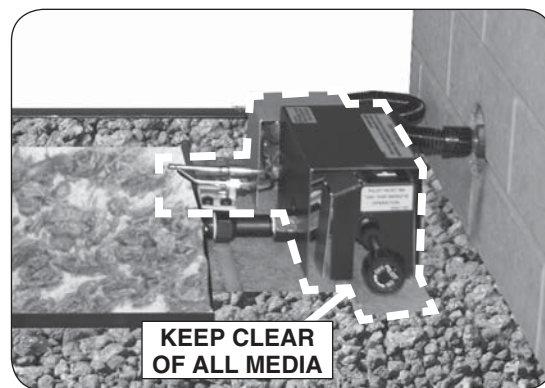

Fig. 20-4 Keep pilot, valve, & shield(s) clear
**KEEP LAVA GRANULES/COALS, SAND/VERMICULITE, EMBERS, AND ALL FOREIGN OBJECTS AWAY FROM THE PILOT ASSEMBLY, VALVE ASSEMBLY, AND HEAT SHIELD(S) DURING MEDIA PLACEMENT AND AT ALL TIMES. SEE FIG. 20-4.**